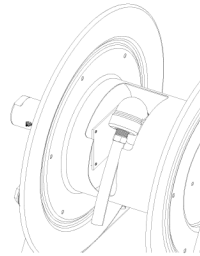
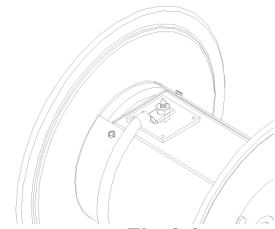

Fig 1.0
Fig 2.0
- 2.) Thread male hose fitting into outlet riser(s). Refer to figure 1.0 for single and figure 2.0 for double outlets. Note: Outlet riser is removable on 1195 series.
- 1.) Place connector over stud (fig 2.0) and install brass nut (supplied).